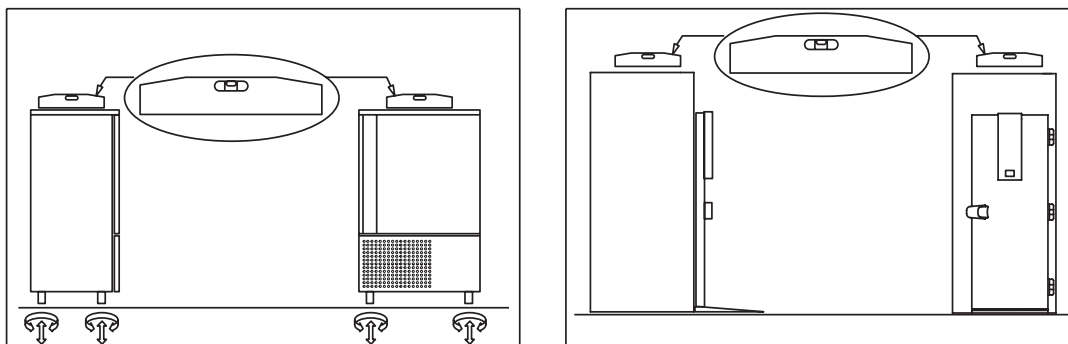

Fig.5
- position the blast chiller using a level with possible adjustment models PROFESSIONAL TRAY of the feet of the metal base (Fig. 5)
- position the blast chiller as described above (Fig. 5)